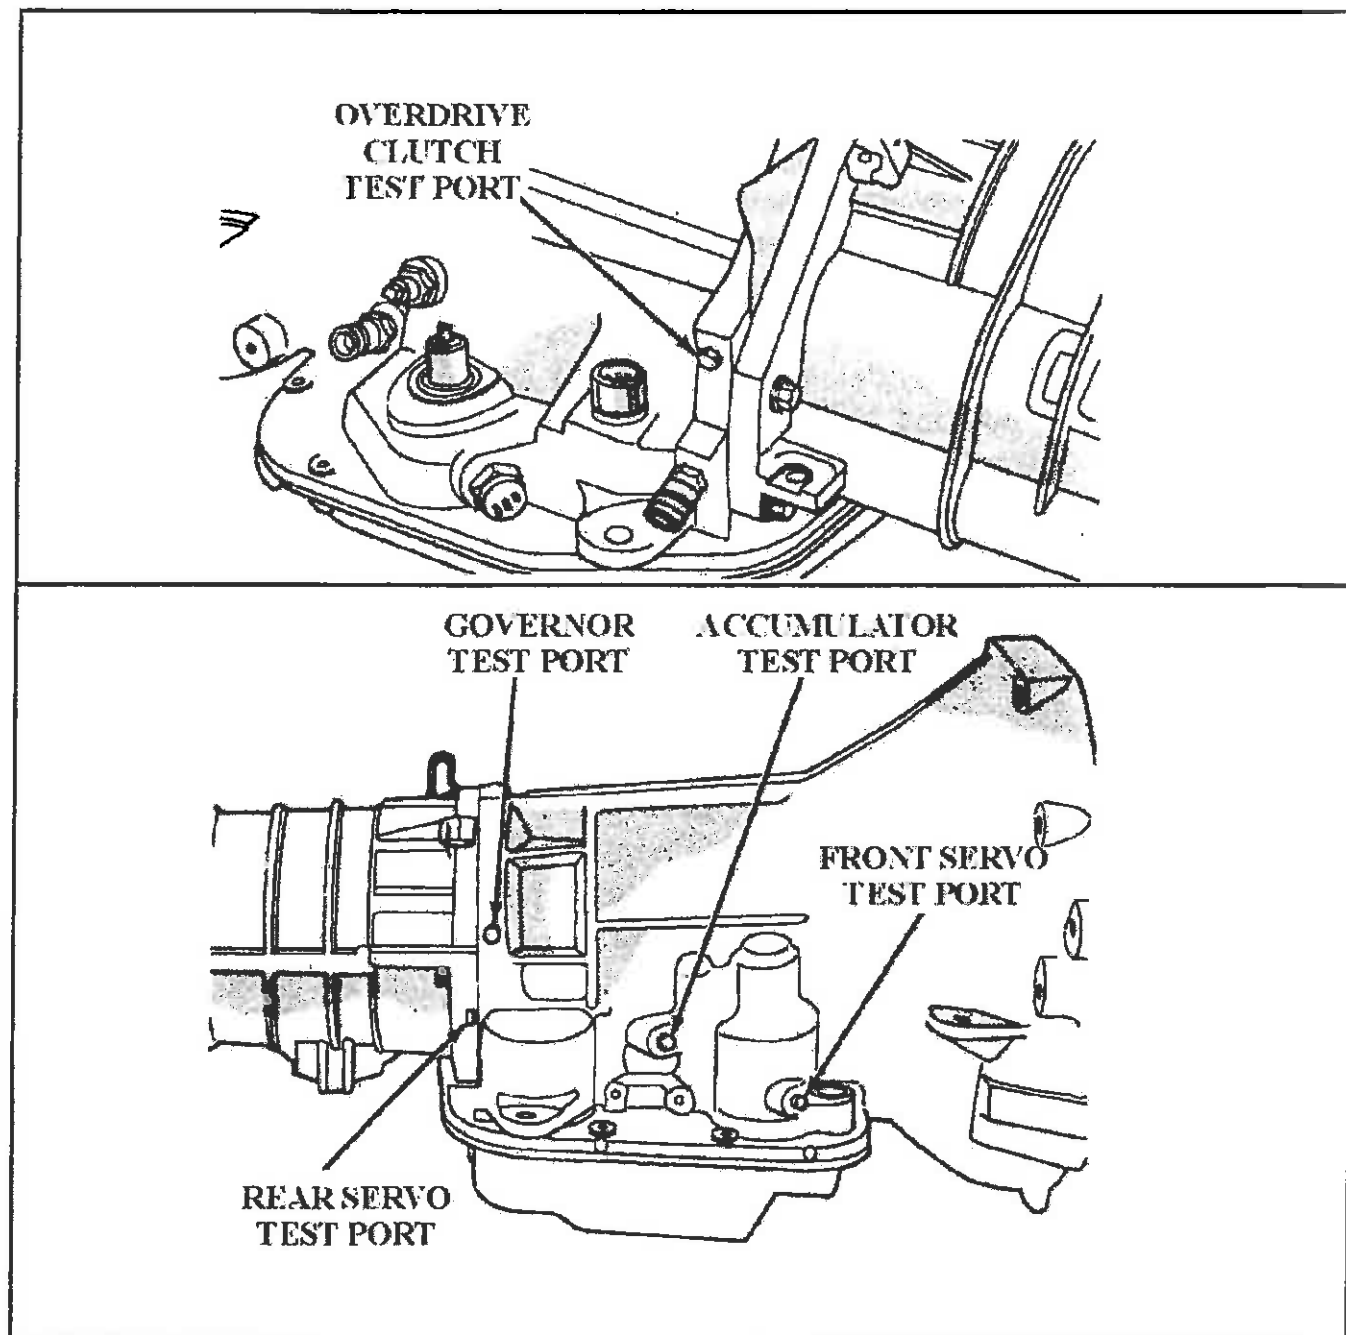

Figure 5
- CORRECTION:** If the band is destroyed the unit will obviously need to be removed for service. During the transmission repair procedure, disassemble the valve body and carefully flat sand the channel plate to ensure that the channel plate will mate flat to the spacer plate. When assembling the valve body, there are two holes that are to be used to properly align the spacer plate to the channel plate as seen in Figures 2 and 3. Place the spacer plate onto the channel plate and install the two bolts one in each alignment hole by hand. Then put the tension plate in place and tighten to 35 inch pounds to secure the spacer plate to the channel plate (See Figure 4). Remove the two bolts used to align the plate and re-use the same bolts to align the valve body and torque all the attaching bolts to 35 inch pounds. After the unit has been repaired and installed into the vehicle, attach a pressure gauge to the low/reverse pressure port (See Figure 5) and ensure that 0 psi is present while in third and forth gear.
- (3) OVERDRIVE VALVE BODY - Casting changes to accommodate the added number 10 check ball, as illustrated in Figure 5.